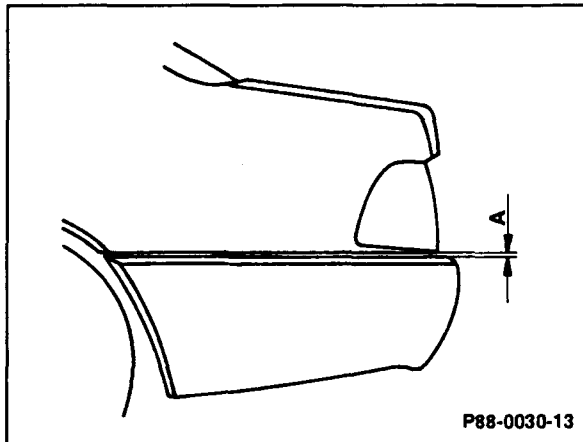

Figure 13
5. Remove clips and chrome moldings, (Figure 13), SMS Job No. 88-225.
13. Inspect alignment of assembly and adjust if necessary (A = 5 mm, Figure 13).